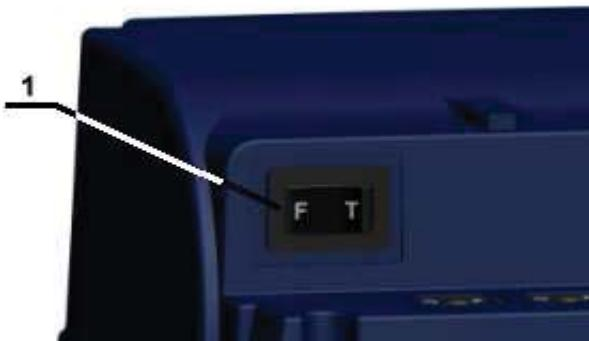

Fig. 14
The function F/T allows to have proportional injections to a coming signal from a water meter or any kind of device with potential free contact emitter. Such proportionality can be 1:1 (F) type, for each pulse received the pump will give one stroke, or time driven (T) type, the time to dose is set through a special potentiometer that allow to set a percentage of time from 0 to 100% (time range from 0 to 60 sec.); e.g.: at 50% set, time "t" will be 30 seconds, so when a pulse arrives the pump will start dosing for 30 seconds continuously. If during these 30 seconds the water meter produces a further contact, the pump will not take care of that and it stops in the end of the 30 sec. The choice of the function F or T is possible acting on a back part pump switch (see pos.1 fig 14).
NOTE: to have a fast priming we suggest to set the mode switch to "T" mode (see pos.1 fig. 14), rotate the potentiometer totally on the right side and to short-circuit the pins 3 and 4 of water meter input connector (see pos.2 fig. 13). For a short-circuit contact the pump will be activated for 60 sec. If 60 sec will be not enough to prime the pump please short-circuit contact again the pins of water meter input connector.